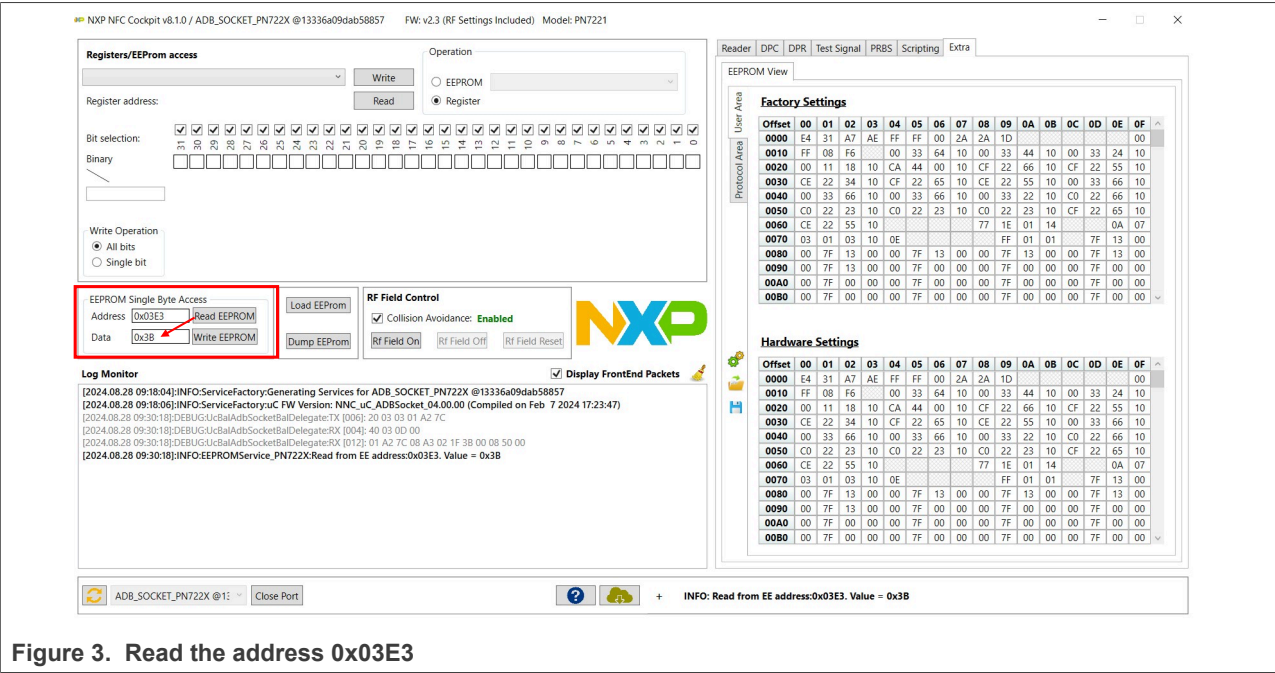
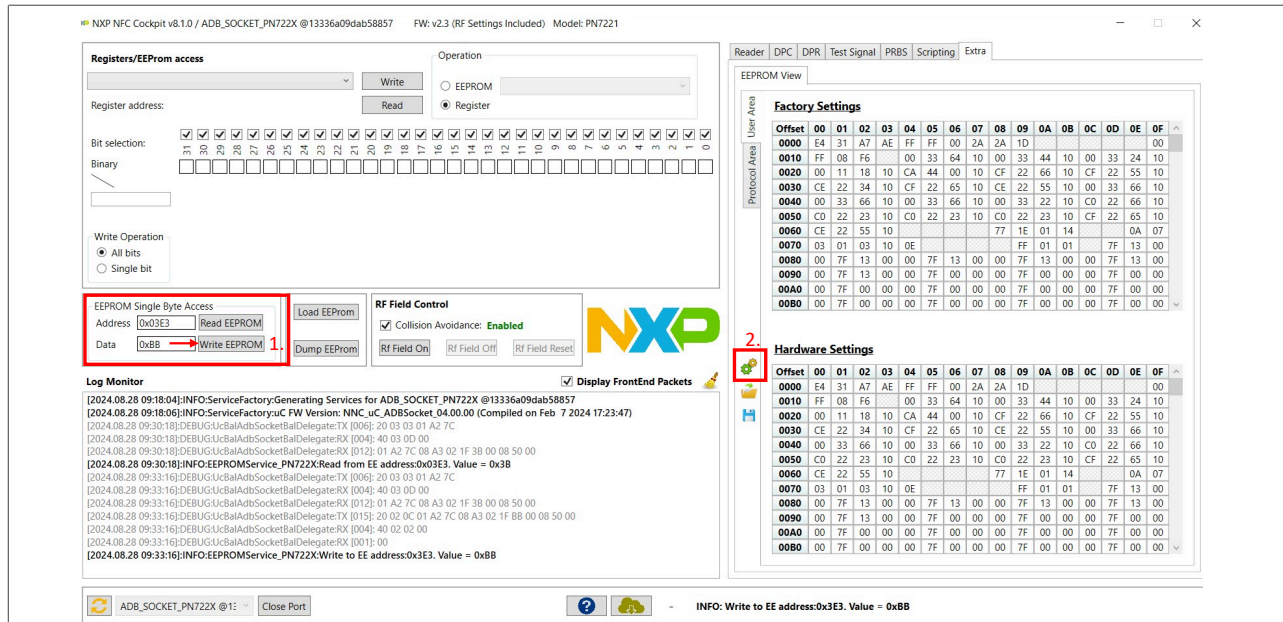

Figure 3. Read the address 0x03E3
Figure 4. Write to the address 0x03E3 and again load settings from HW ("2.")
3. To show how to build the configuration file, let's enable the LPCD. This can be done inside "EEPROM Single-Byte Access" with address (0x03E3). First we read it out (see Figure 3) and then change the bit 7 to 1. After that we write it back to HW ("1.") and click "2." in Figure 4.